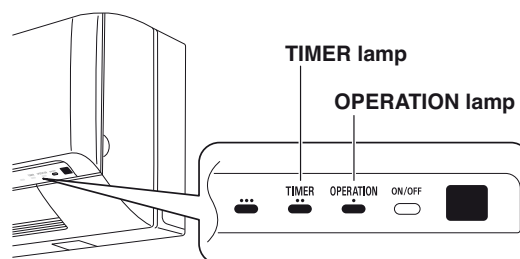

Fig. 59c
- This starts the fan producing uncooled forced air with the 3 indicator lamps (OPERATION lamp, TIMER lamp, and ) on the main unit blinking. (Fig. 59c)